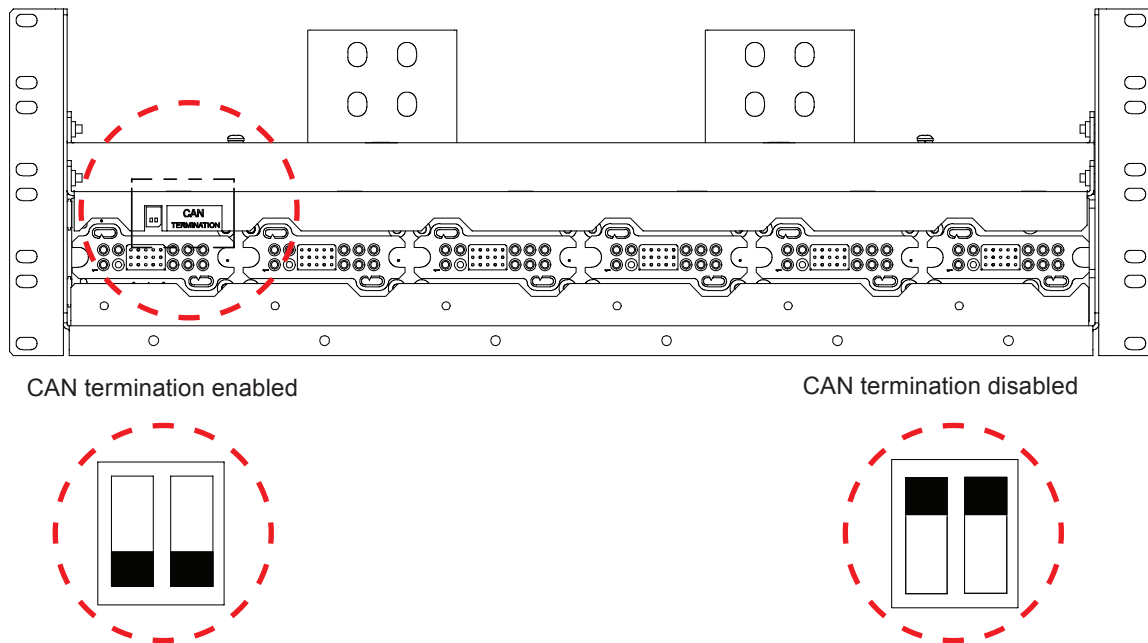

Figure 18 — CAN Bus Termination
The CAN bus provides a communication path between the controller and rectifiers. In a single bay, the CAN bus cabling is daisy-chained from the L-ADIO, to the top rectifier shelf. The cable is then daisy-chained from the top shelf, to lower shelves, in sequence. At the last shelf, termination is enabled— see Figure 18.
2. Flip the DIP switches from Termination Enabled to Termination Disabled—see Figure 18.